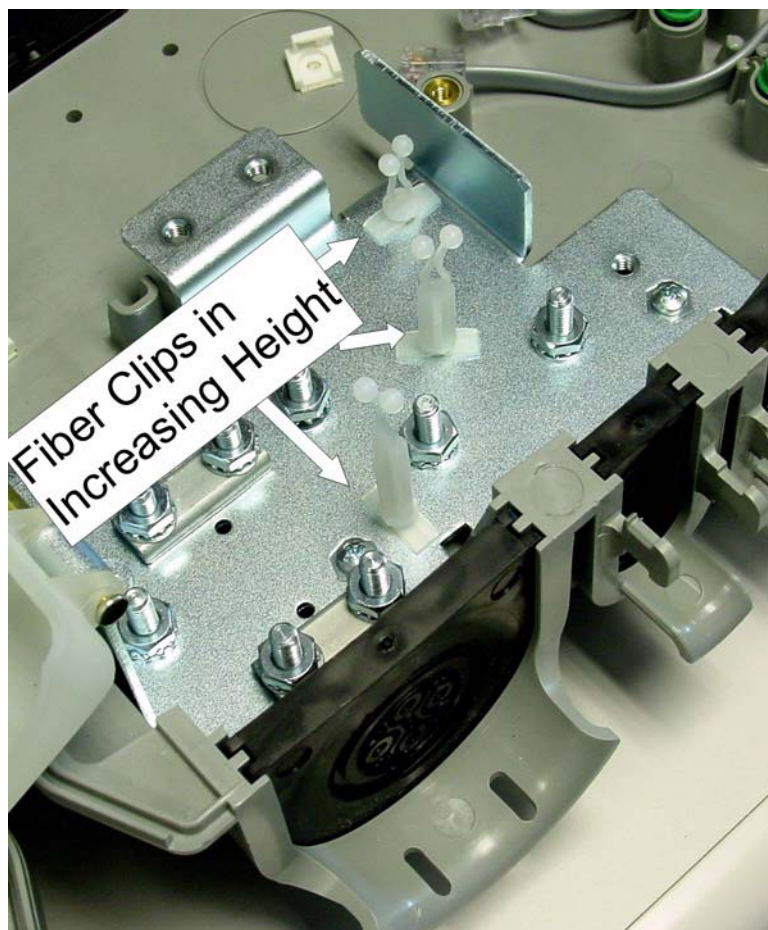

Figure 7. Attaching fiber clips
2. Attach these to the grounding plate so that they are in increasing height, as shown in Figure 7.